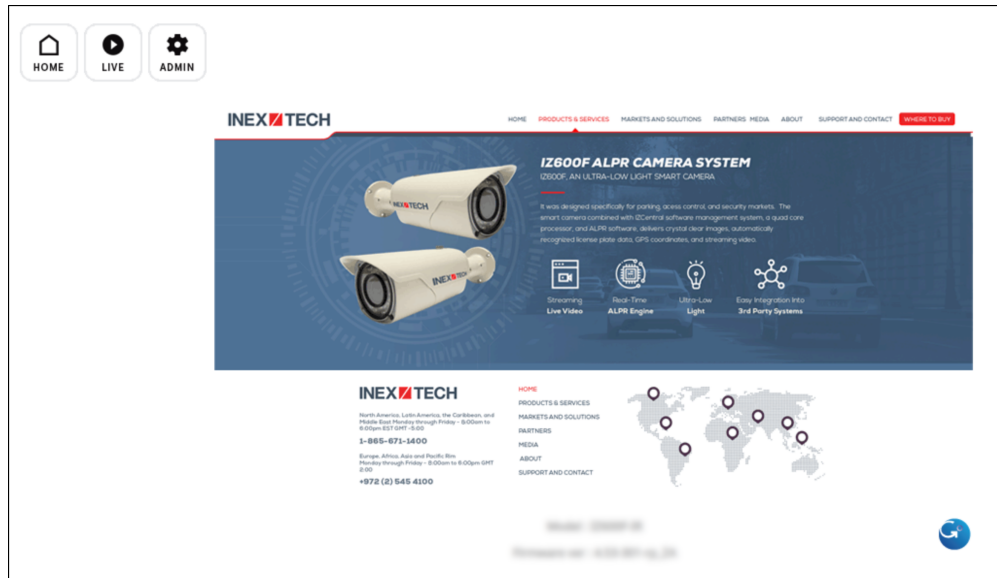

Figure 14. Camera's Home Page
1. To view the camera's home page (see Figure 14):